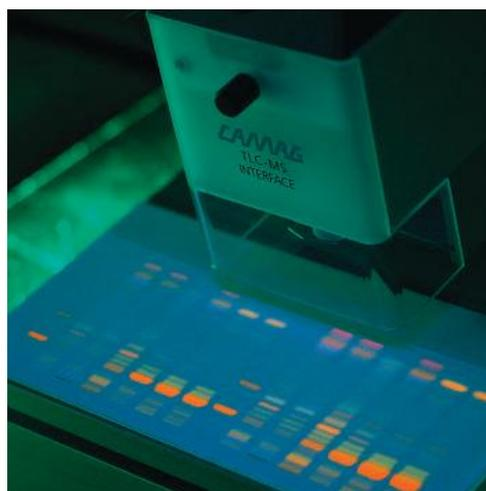

FIGURE 6 TLC performed on fluorescent plates
Paper chromatography and TLC are not limited to being used with coloured compounds. **Fluorescent** TLC plates can be used under ultraviolet (UV) light to see the components of a sample that would not otherwise be visible. These are shown as brighter areas on the plate where the sample emits fluorescence (Figure 6).